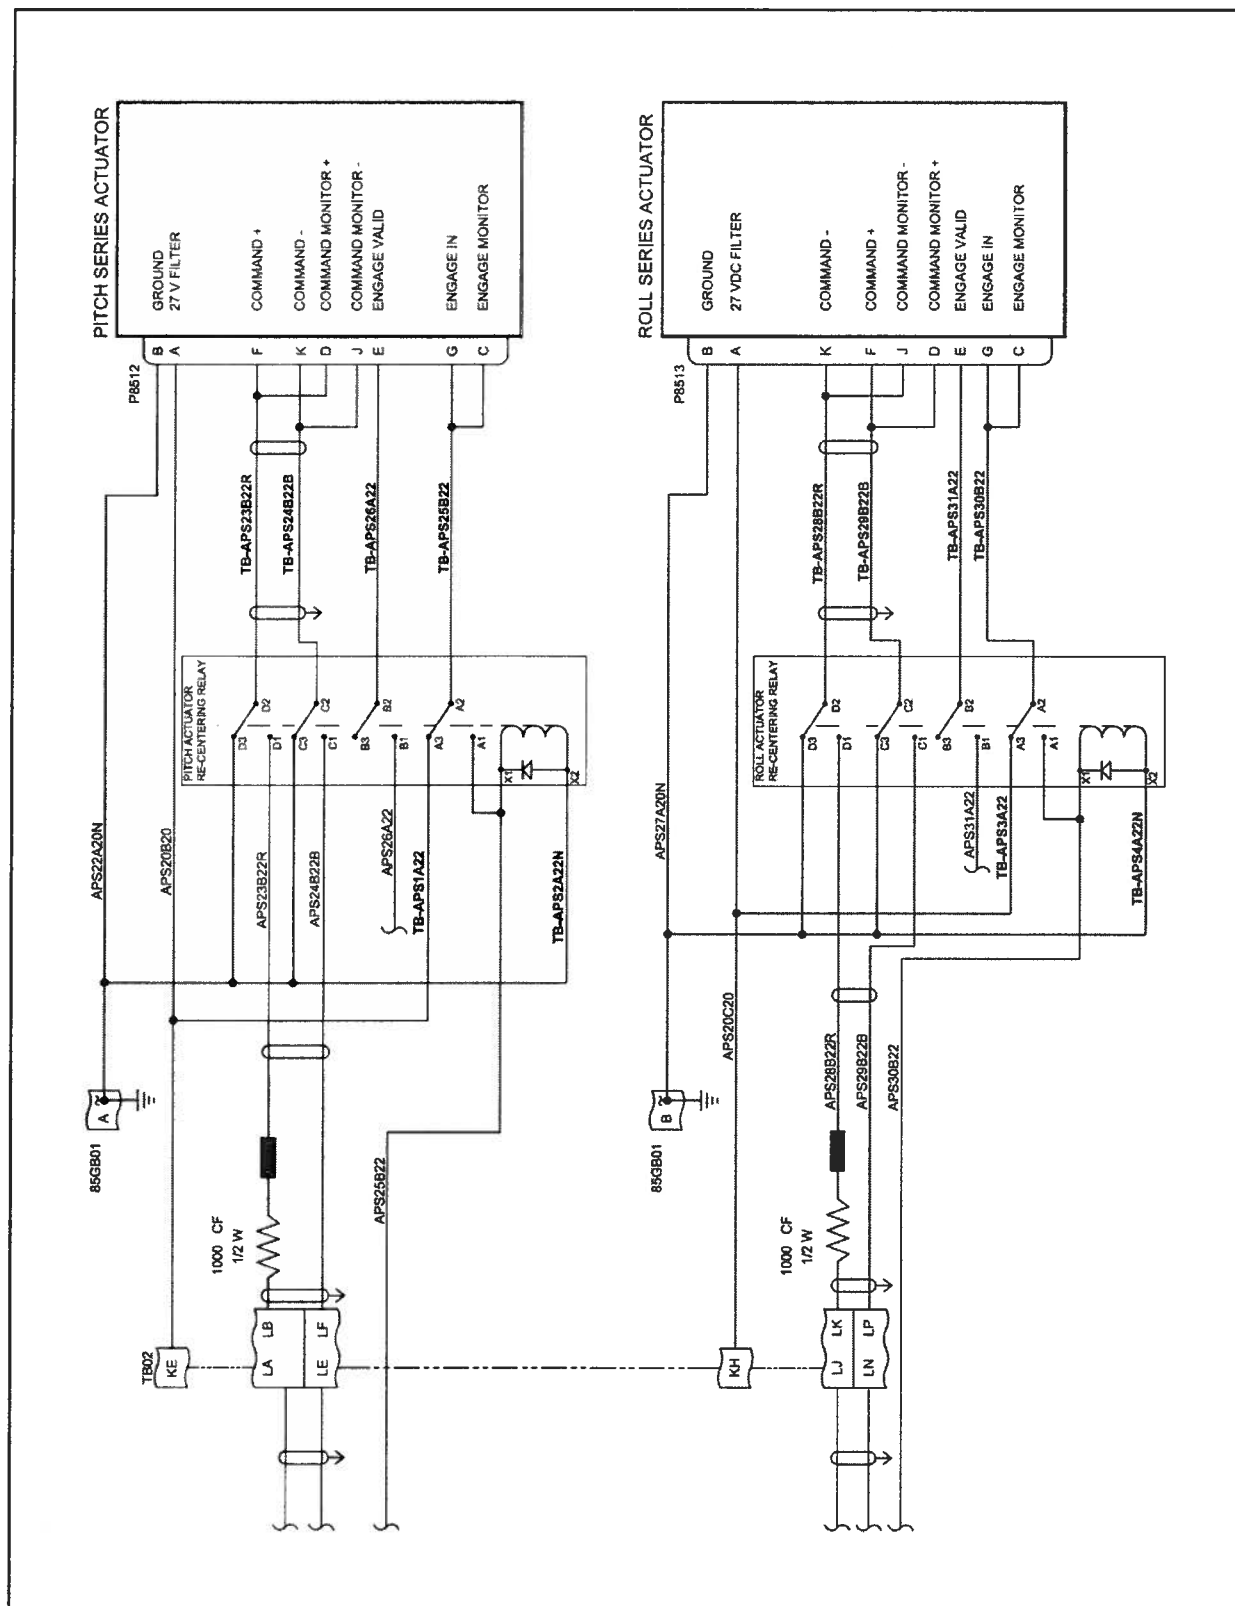

FIGURE 6 – Post-Mod Pitch and Roll Actuator Wiring Diagram
12. Using M27759/41-22-9 Wire and M39029/5-115 Contact connect from Pin A2 on the Pitch Actuator Re-Centering Socket to Pin G on the **GREEN** Pitch SEMA electrical connector (P8512) as shown by TB-APS25B22 in Figure 6. Identify wire as TB-APS25B22 in accordance with AC 43.13-1B, Chapter 11, Section 16.
13. Using M27759/41-22-9 Wire and M39029/5-115 Contact connect a Jumper Wire from Pin C on the **GREEN** Pitch SEMA electrical connector (P8512) and splice into TB-APS25B22 per AC 43.13-1B, Chapter 11, Section 13 as shown in Figure 6.
14. Using M27759/41-22-9 Wire and M39029/5-115 Contact connect from Pin B2 on the Pitch Actuator Re-Centering Socket to Pin E on the **GREEN** Pitch SEMA electrical connector (P8512) as shown by TB-APS26A22 in Figure 6. Identify wire as TB-APS26A22 in accordance with AC 43.13-1B, Chapter 11, Section 16.
17. On the Roll Actuator Re-Centering Socket connect the following wires as shown in Figure 6: APS28B22R to Pin D1, APS29B22B to Pin C1, APS30B22 to Pin X1, and APS31A22 to Pin B1.
18. Using M27759/41-22-9 Wire connect a Jumper Wire from Pin A1 on the Roll Actuator Re-Centering Relay and splice into APS30B22 per AC 43.13-1B, Chapter 11, Section 16 as shown in Figure 6.
19. Using M27759/41-22-9 Wire connect to Pin A3 on the Roll Actuator Re-Centering Relay and splice into APS20C20 per AC 43.13-1B, Chapter 11, Section 13 as shown by TB-APS3A22 in Figure 6. Identify wire as TB-APS3A22 in accordance with AC 43.13-1B, Chapter 11, Section 16.
20. Using M27759/41-22-9 Wire connect to Pin X2 on the Roll Actuator Re-Centering Relay and splice into APS27A20N per AC 43.13-1B, Chapter 11, Section 13 as shown by TB-APS4A22N in Figure 6. Identify wire as TB-APS4A22N in accordance with AC 43.13-1B, Chapter 11, Section 16.
21. Using M27759/41-22-9 Wire connect Jumper Wires from Pin C3 and D3 on the Roll Actuator Re-Centering Relay and splice into TB-APS4A22 per AC 43.13-1B, Chapter 11, Section 13 as shown in Figure 6.
22. Using M27500-22SM2N23 Wire, Shielded and M39029/5-115 Contact connect from Pin D2 on the Roll Actuator Re-Centering Socket to Pin K on the **RED** Roll SEMA electrical connector (P8513) as shown by TB-APS28B22R in Figure 6. Connect from Pin C2 on the Roll Actuator Re-Centering Socket to Pin F on the **RED** Roll SEMA electrical connector (P8513) as shown by TB-APS29B22B in Figure 6. Identify wires as TB-APS28B22R and TB-APS29B22B in accordance with AC 43.13-1B, Chapter 11, Section 16.
23. Using M27759/41-22-9 Wire and M39029/5-115 Contact connect a Jumper Wire from Pin D on the **RED** Roll SEMA electrical connector (P8513) and splice into TB-APS29B22B per AC 43.13-1B, Chapter 11, Section 13 as shown in Figure 6.
24. Using M27759/41-22-9 Wire and M39029/5-115 Contact connect a Jumper Wire from Pin J on the **RED** Roll SEMA electrical connector (P8513) and splice into TB-APS28B22R per AC 43.13-1B, Chapter 11, Section 13 as shown in Figure 6.
25. Using M27759/41-22-9 Wire and M39029/5-115 Contact connect from Pin A2 on the Roll Actuator Re-Centering Socket to Pin G on the **RED** Roll SEMA electrical connector (P8513) as shown by TB-APS30B22 in Figure 6. Identify wire as TB-APS30B22 in accordance with AC 43.13-1B, Chapter 11, Section 16.
26. Using M27759/41-22-9 Wire and M39029/5-115 Contact connect a Jumper Wire from Pin C on the **RED** Roll SEMA electrical connector (P8513) and splice into TB-APS30B22 per AC 43.13-1B, Chapter 11, Section 13 as shown in Figure 6.
27. Using M27759/41-22-9 Wire and M39029/5-115 Contact connect from Pin B2 on the Roll Actuator Re-Centering Socket to Pin E on the **RED** Roll SEMA electrical connector (P8513) as shown by TB-APS31A22 in Figure 6. Identify wire as TB-APS31A22 in accordance with AC 43.13-1B, Chapter 11, Section 16.